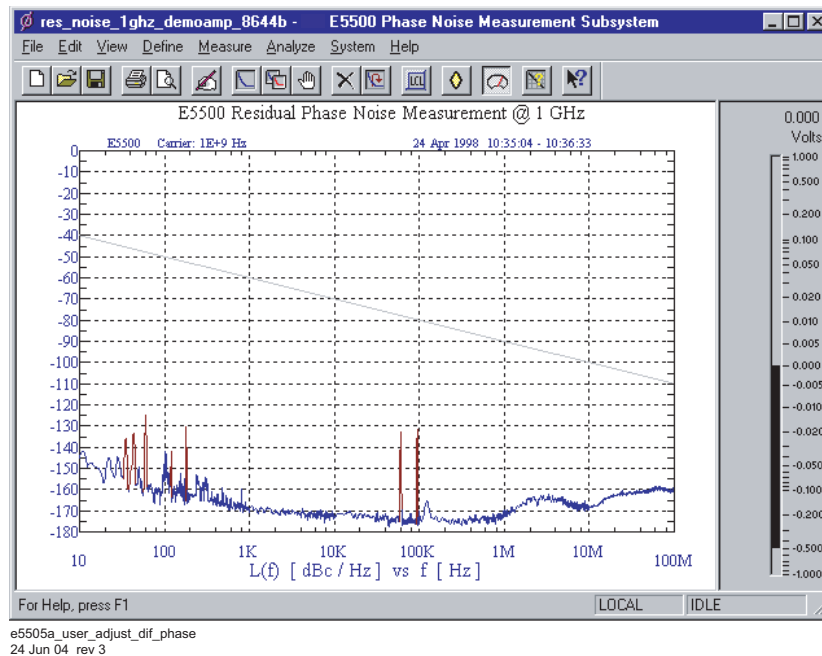

Figure 175 Adjust phase difference at phase detector
- 4 Adjust the phase difference at the phase detector as prompted by the phase noise software. See Figure 175.